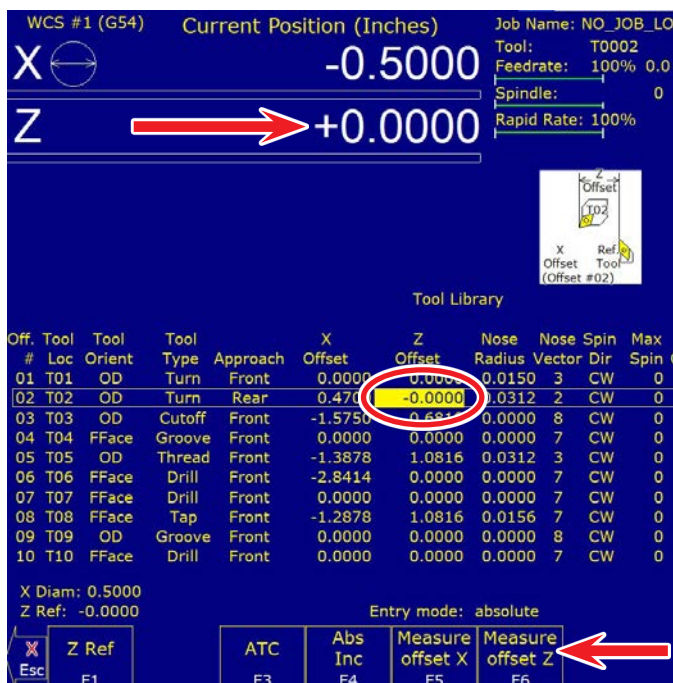

FIGURE 17
3. To get to the Tool Library (Setup F1, Tool Offset F2, Measure Tool F2). Now highlight the tool and the axis that you are going to measure (in this example we are highlighting tool #2, Z Offset). As you can see below the DRO is at Z0.0000. Now click on Measure Offset Z F6 (see Figure 17).